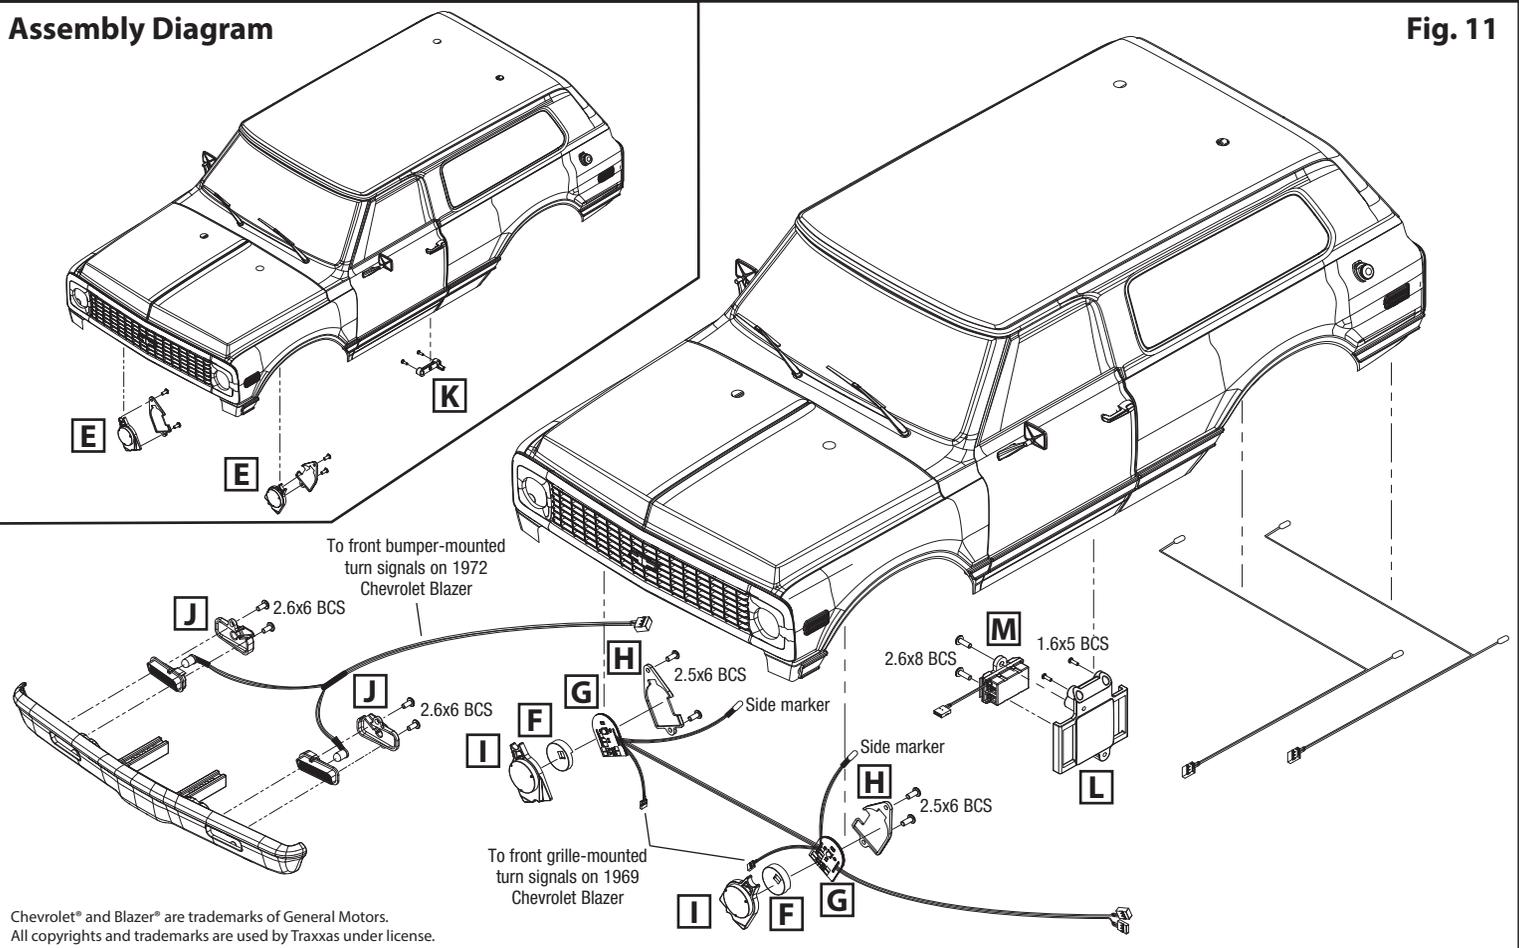

Fig. 11
1. Remove the 2.5x6mm button-head cap screws from each headlight assembly and remove the assemblies (E) from the grille (see Assembly Diagram, Fig. 11). Retain and reuse the plastic headlight mounts and hardware.
1. Remove the screw pins (2) and remove the front bumper/bumper mount from the chassis crossmember.
2. Remove the 2.6x6mm button-head cap screws (2) from each turn signal mount and remove the mounts (J) from the front bumper (see Assembly Diagram, Fig. 11).